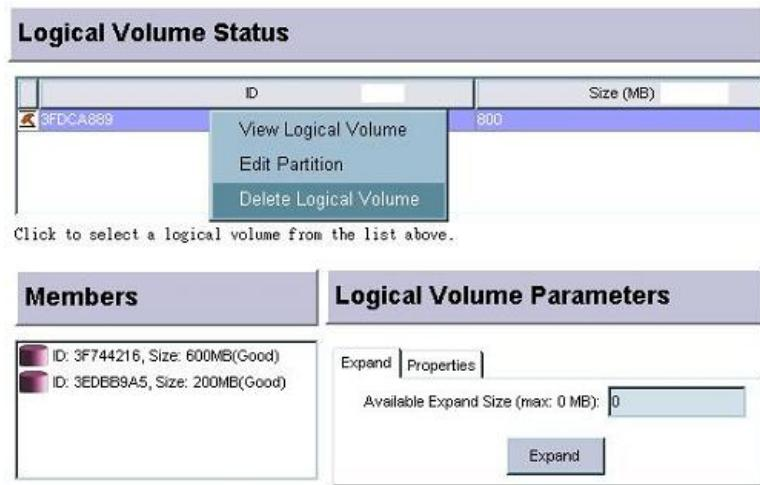

Figure 9-22: Displaying Logical Volume Edit Mode Menu
**Step 1.** Select the configured volume you wish to remove with a single mouse-click. **Right-click** the adjacent area to display a command menu. As shown in **Figure 9-22**, all the LVs that have been created will appear below the **Logical Volume Status** panel.